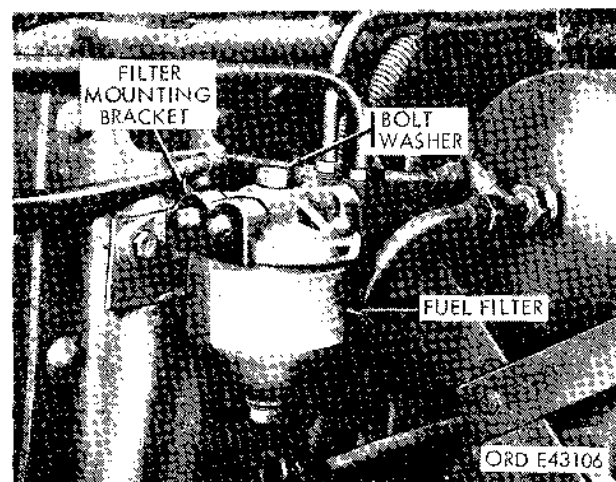
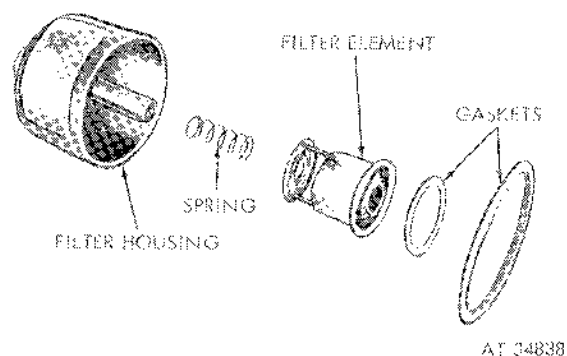

Figure 2-95. Fuel filter—diesel models.
Figure 2-96. Fuel filter—exploded view.
(1) *Removal.* Remove the bolt and lockwasher securing the filter to mounting bracket (fig. 2-95). Remove the filter assembly, and pull the two gaskets, element, and spring out of the housing (fig. 2-96). Discard the gaskets.
(2) *Installation.* Position the spring, element, and smaller element gasket in the housing (fig. 2-96). Place the larger housing-to-bracket gasket into position, and secure the filter assembly to the mounting bracket with the washer and bolt (fig. 2-95).